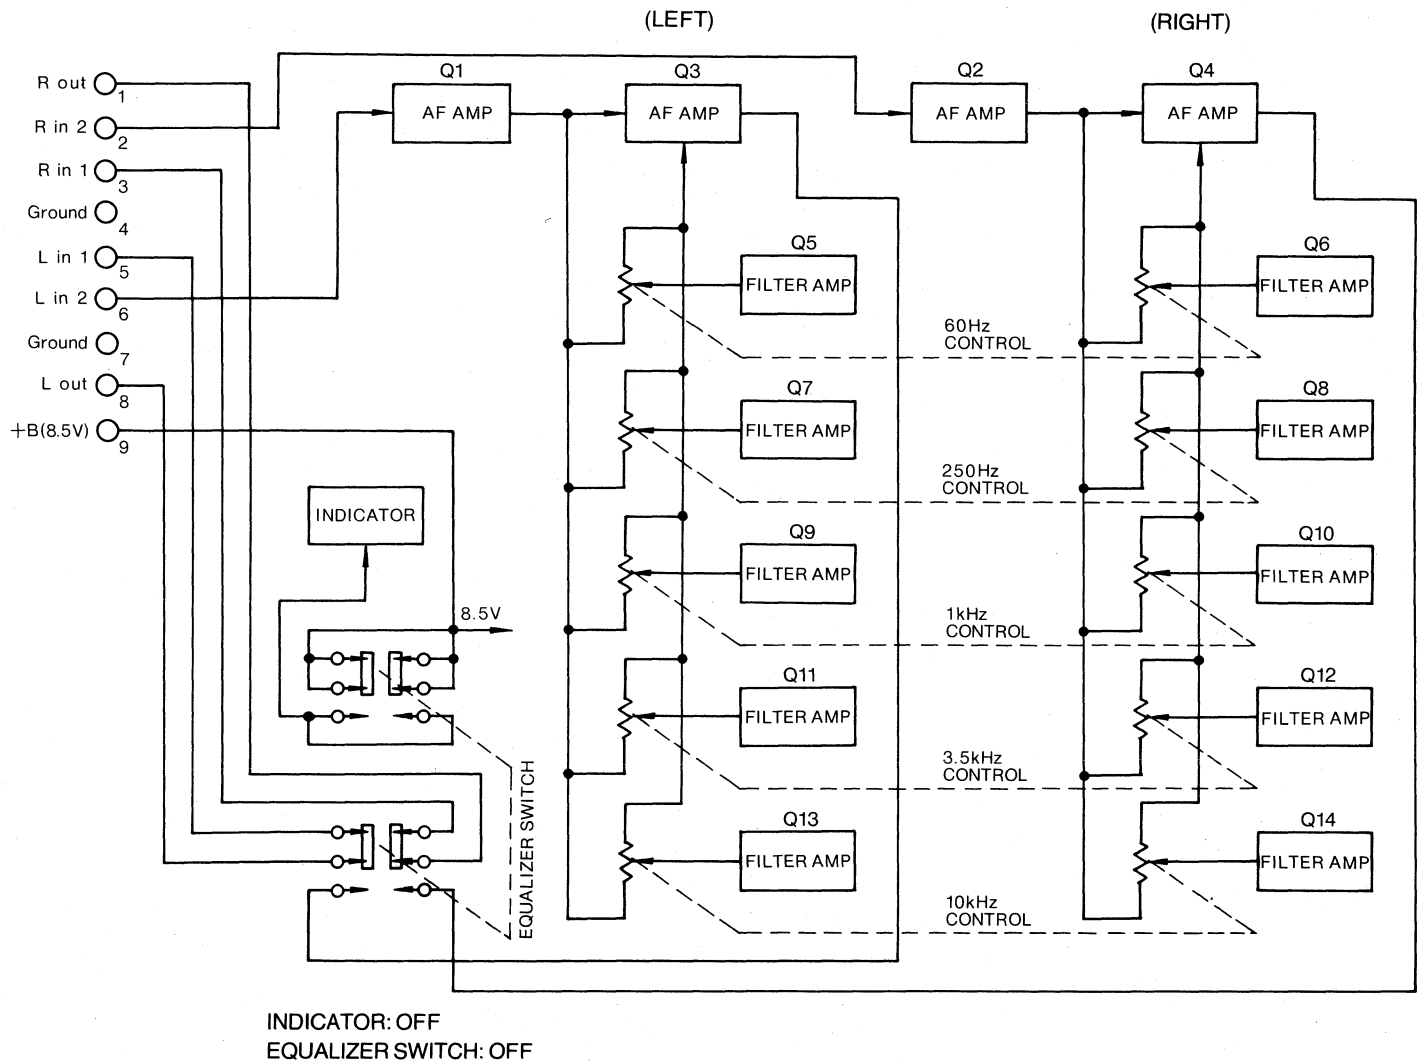

Fig. 39 Block Diagram-Model RM-E610
2. Then contact point ⑤ [figure 39-(a)] is released, and reverse gear (C) moves in the direction of arrow ①, resulting in the condition shown in figure 38-(b).
3. At this time, reverse gears (A) and (C) are meshed, and reverse gears (B) and (C) start rotating in the direction of arrow ②.
Figure 39 shows the block diagram of the model RM-610. It is composed of two-stage AF amplifiers (left and right channels) and five filter amplifiers for each channel, one for control of each frequency point.